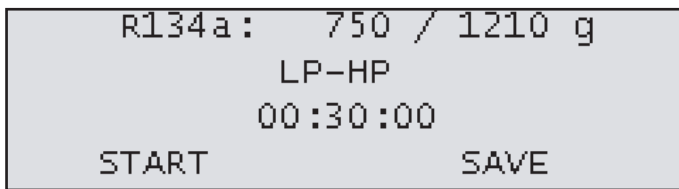

Fig. 15: Parameter adjustment
- After the selection is made, a screen will appear showing the data for the process (Fig. 15).